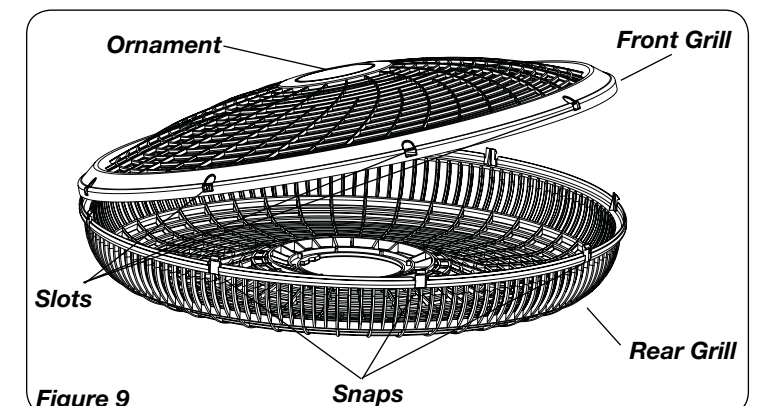

Figure 9
5. With fan head in upright position, align **Ornament** of **Front Grill** so it is horizontal and right side up. Starting with the top of the grill and working down, insert **Snaps** on **Rear Grill** through **Slots** in **Front Grill**. (*Figure 9*)